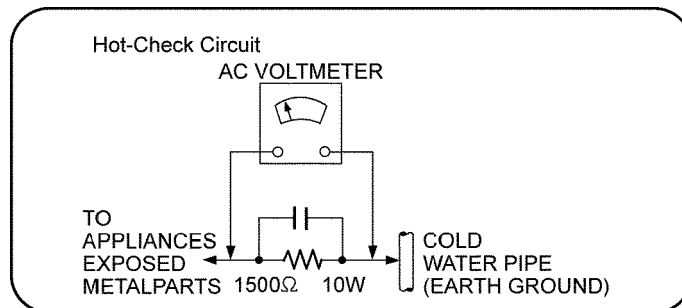

Fig. 1
2. Connect a $1.5k\Omega$, 10 watts resistor, in parallel with a $0.15\mu F$ capacitors, between each exposed metallic part on the set and a good earth ground such as a water pipe, as shown in Figure 1.